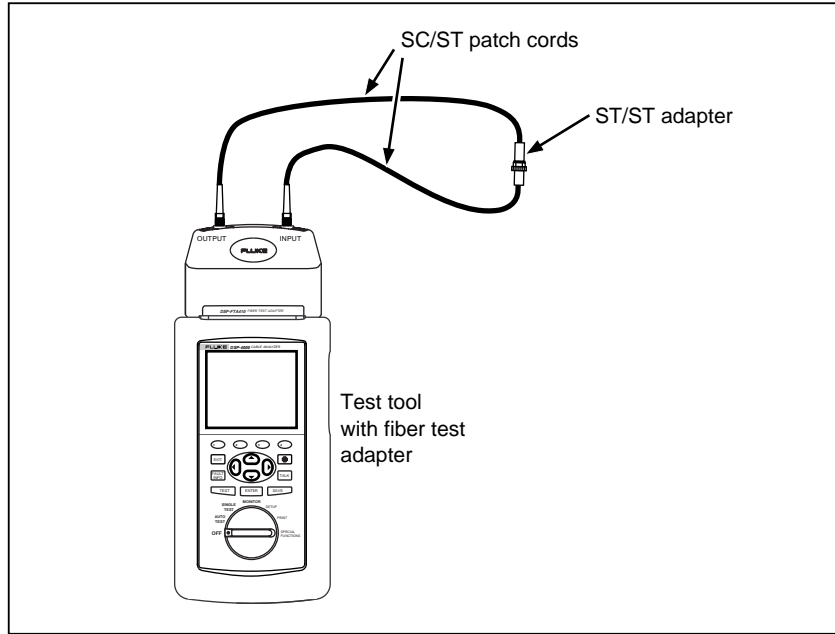

Figure 1. Setting a Reference for Loopback Mode
2. Use two ST/SC multimode patch cords and one ST/ST adapter to connect the UUT OUTPUT and INPUT ports together, as shown in Figure 1.